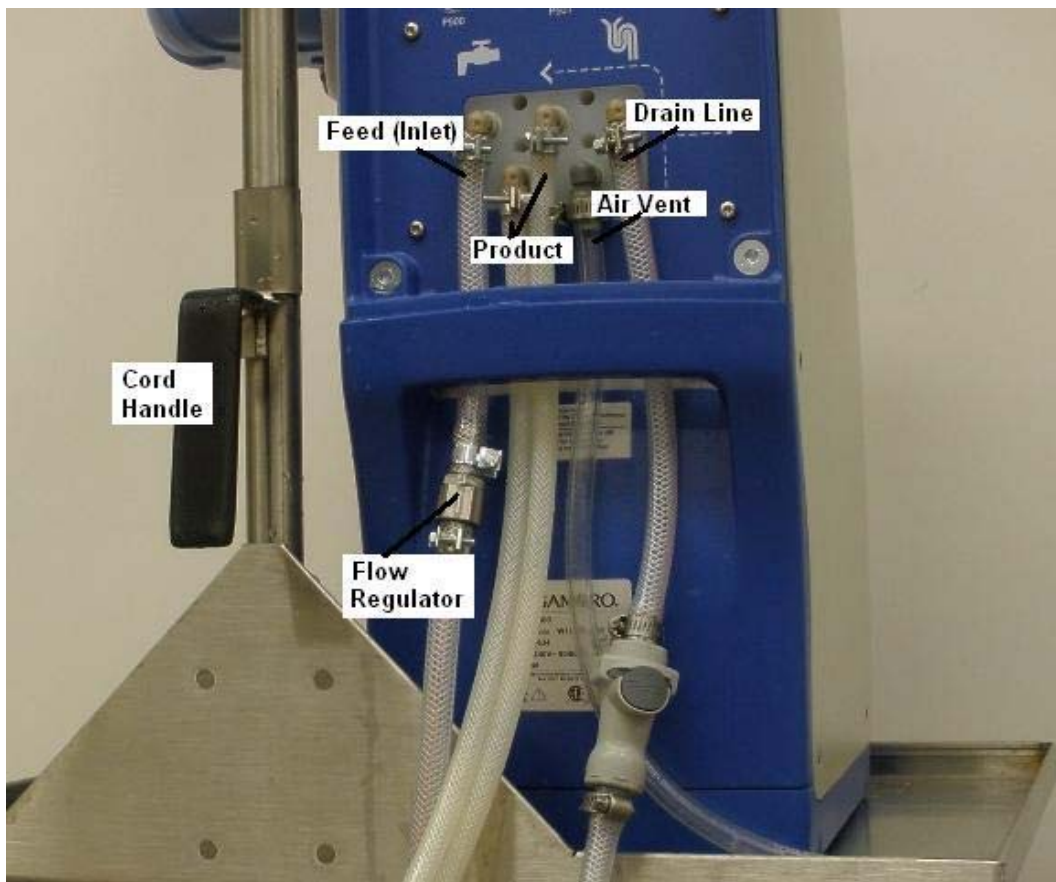

Figure 2
When mounting the WRO onto the Gambro cart make sure the WRO 300 is oriented in such a way that the back of the RO is on the same side of the cart as the cord handle. See Figure 2.
See figure 2 above.
- 3.3.2. Cut the tubing just below the back handle of the WRO and attach the flow regulator. See figure 2 above. (The arrow should point to the WRO 300.) If not installed, this part should be left with the customer in case of future needs.